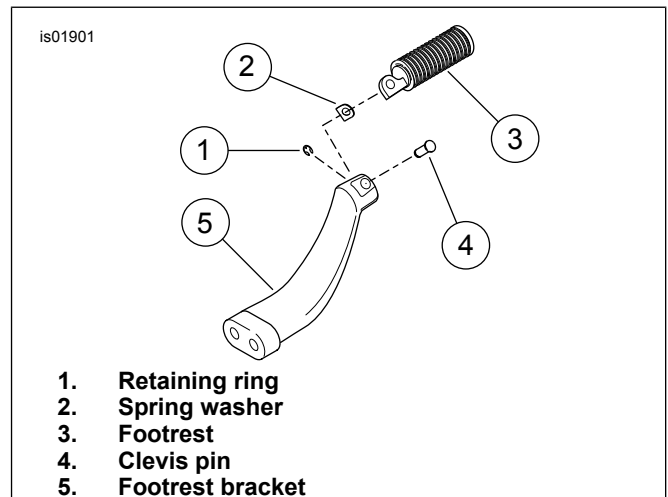

Figure 2. Remove Left Footrest from Support
- Firmly press hole plugs (1) into frame where screws were removed.
- See Figure 2. Disassemble footrest.
- Remove retaining ring (1) from clevis pin (4).
- Remove clevis pin (4), footrest (3) and spring washer (2) from footrest bracket (5).
- Save footrest (3), clevis pin (4) and spring washer (2) for later installation.
- Discard retaining ring (1) and footrest bracket (5).